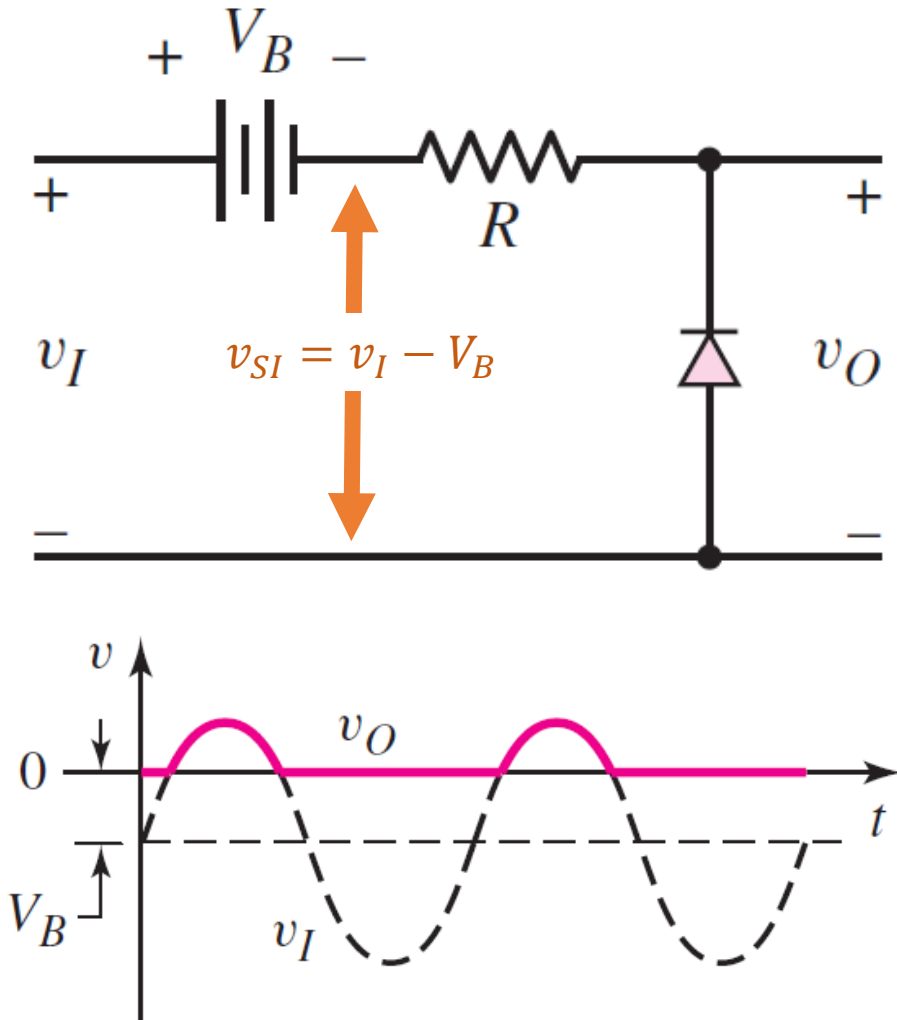

Figure 2.25 Series-based diode clipper circuit and resulting output response 16
- Figure 2.25 shows the battery in series with the input signal **causes the input signal to be superimposed on the  $V_B$  DC voltage**.
- The resulting **conditioned input signal** and corresponding output signal is also shown in Figure 2.25.